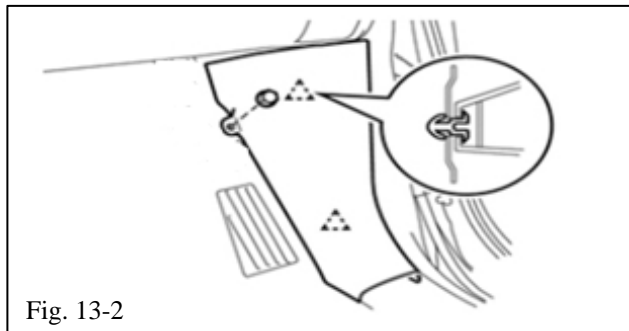

Fig. 13-2
- (b) Reinstall the RH cowl side trim with the nut (Fig. 13-2).